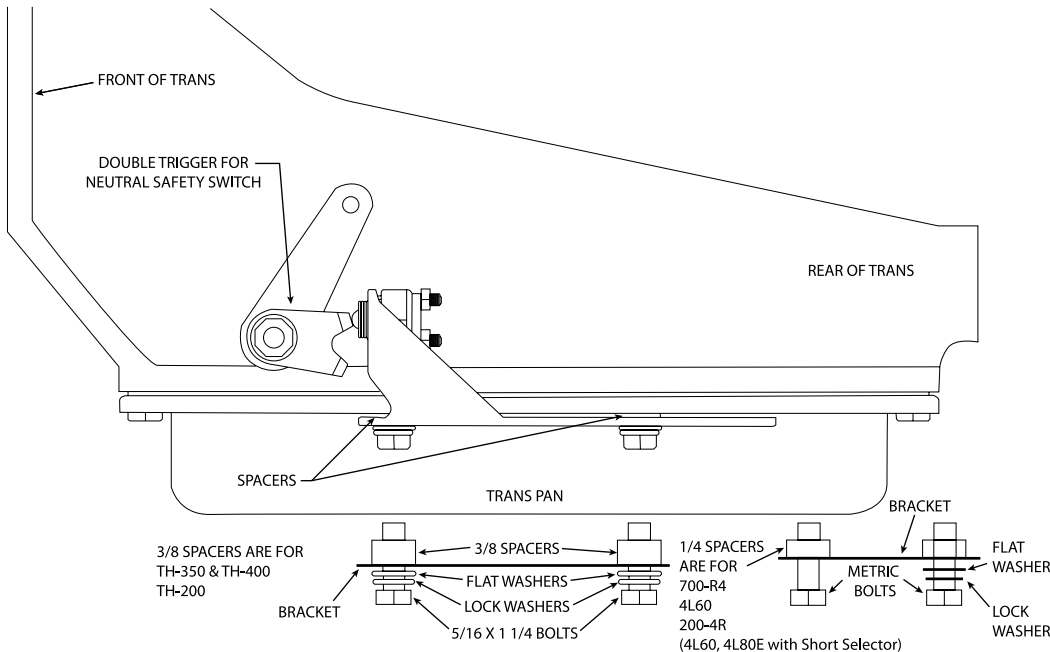

Figure 1
- **For TH-350, TH-400, and TH-200 Applications,** use 3/8" thick spacers between bracket and transmission pan. Use flat washer and lock washer on bottom side of bracket. See **Fig. 1** on page 2.
- **For 700-R4, 200-4R, (and 4L60, 4L80E with Short Selector Shaft) Applications,** use 1/4" spacers and two metric bolts supplied with kit. Use the flat washer and lock washer on the bottom side of the bracket. See **Fig. 1** on page 2.
Step 2: Put transmission in park and install double trigger as shown in **Fig. 1**, with the internal star lock washer between the nut and the trigger. Position the trigger so that the ball switch is depressed in park. The double trigger should also depress the ball switch when transmission is in the neutral position.
- **If there are (2) connections for a neutral safety switch,** you must run a #12 (or heavier) stranded wire from these terminals to the (2) terminals on the neutral safety switch. That completes the Neutral Safety Switch wiring.